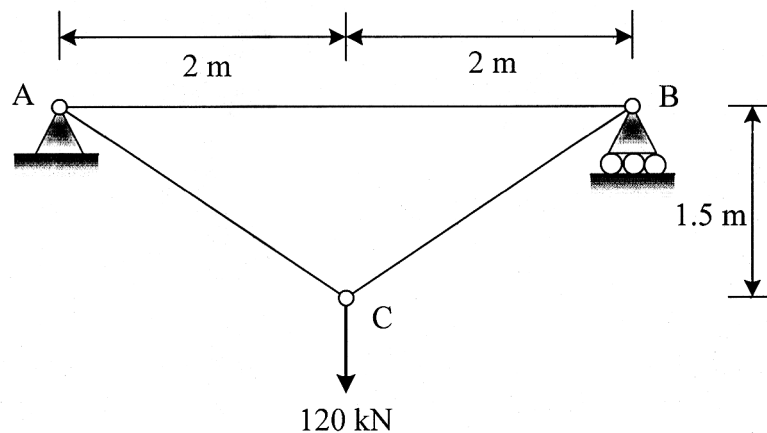

Fig. 2
3. (a) Find the vertical displacement of joint C for the pin jointed truss as shown in Fig. 2. The cross sectional area of the members AC and CB are 800 mm2 and the areas of the members AB is 1000 mm2. Take E = 200 kN/mm2. [6]